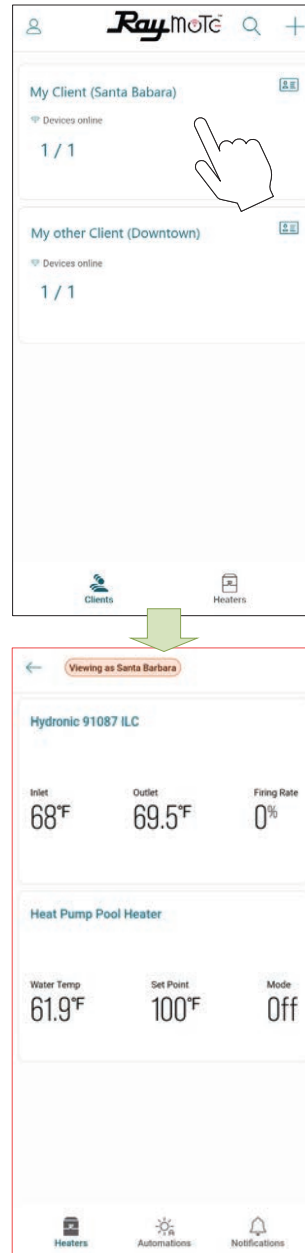

Figure 115. Access your Client's Heaters
7. You can access your client's heaters by clicking in each client tile. See Figure 115.